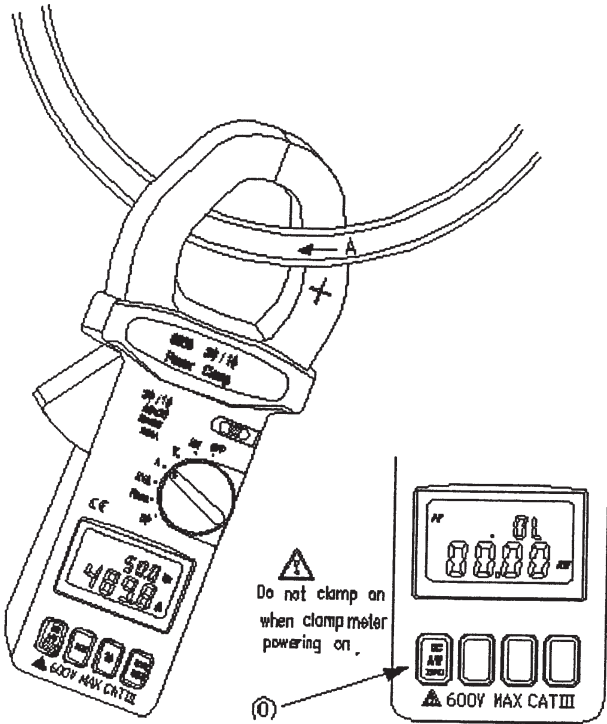

Fig.4
- a. Set the rotary switch at A (refer to figure 4).